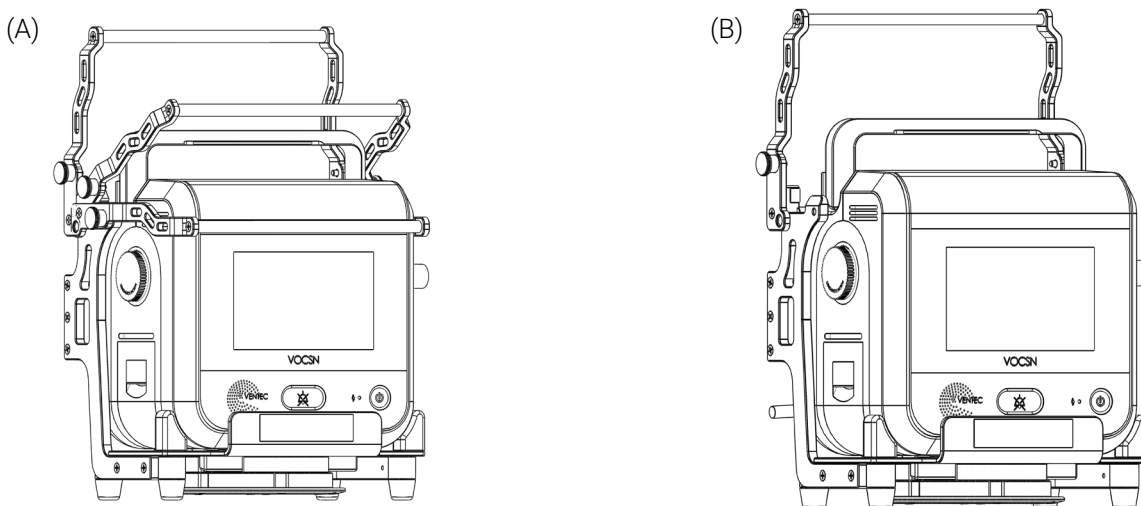

Figure 4: VOCSN ventilator removal from Bracket Pro Serie 280
1. Pull the 2 quick release knobs to disengage the pull-down bar and lift the pull-down bar upwards until it has run its course (Figure 4).